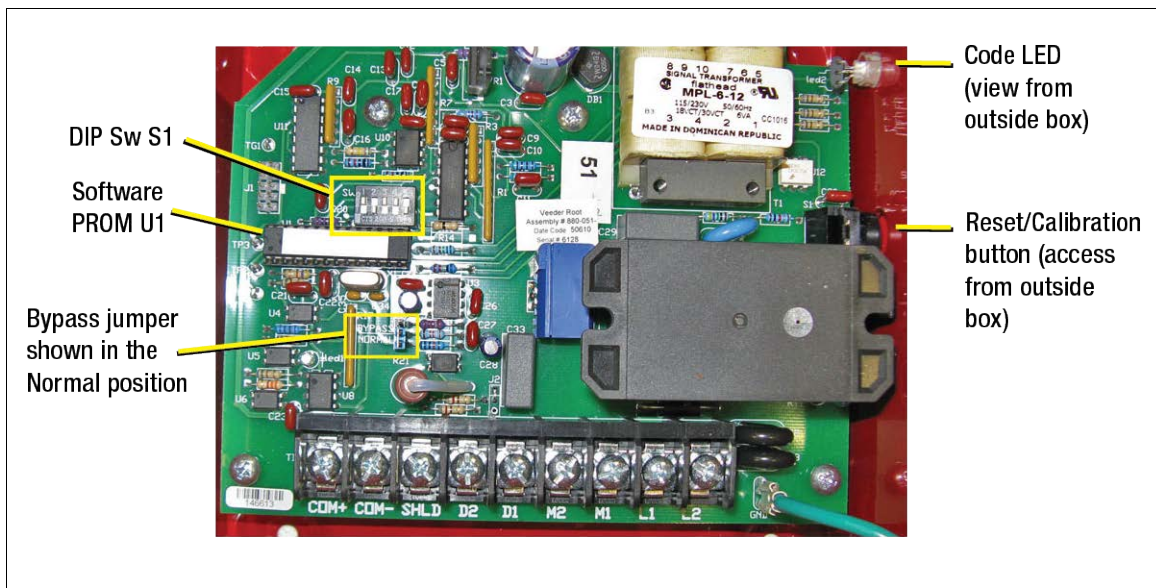

Figure A-3. Locating Software Upgrade Components Inside Typical IQ Control Box
2. Locate the Code LED and the Reset/Calibration button (Figure A-3). Depress the Reset/Calibration button for 20 seconds and then observe the Code LED flashing sequence as shown in Table A-3. Note the number of Green flashes, as this will identify the Motor Type (for use in Steps 6 and 14 in the Programming The Motor Type section).
3. Locate the Software PROM U1 (see Figure A-3).
2. Set the five Motor Type Programming DIP switches (Figure A-3) to the positions indicated in Table A-2 for connected STP Motor Type.
5. Locate the Code LED and the Reset/Calibration button (see Figure A-3). Depress the Reset/Cal button 20 seconds and then observe the Code LED flashing sequence shown in Table A-3. Record the number of Green flashes for your Motor Type.